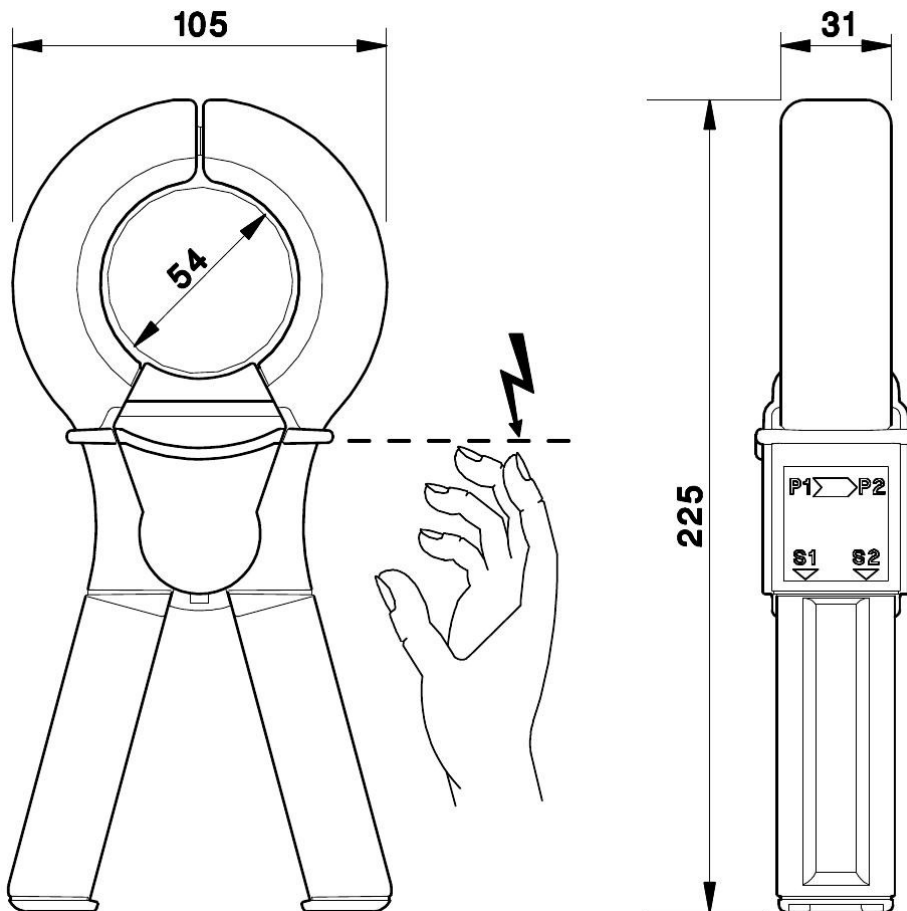

Figure 2.80: Dimensions in mm and protection against electric shock
- For protection against electric shock please refer to Figure 2.80 [→97]